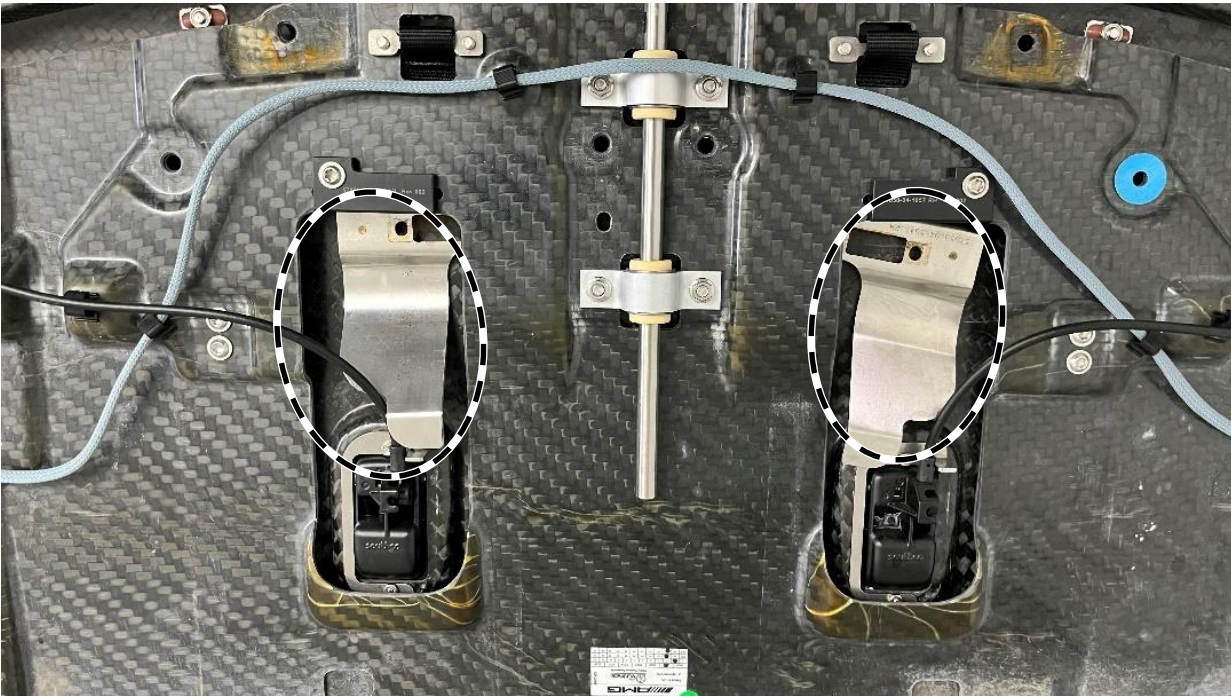

Figure 9
4. Disassemble both spring elements (figure 9).